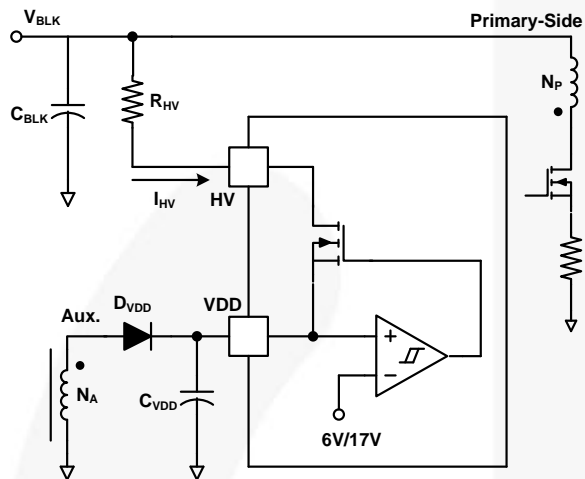
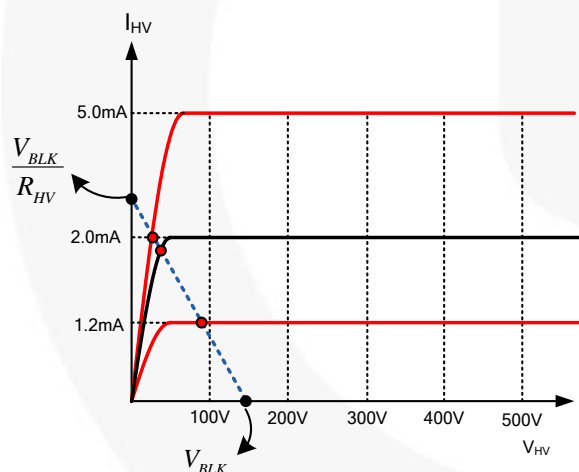

Figure 31. HV Startup Circuit
Figure 32. V-I Characteristic of HV Pin
Figure 31 shows the high-voltage (HV) startup circuit for FAN501 applications. The JFET is used to internally implement the high-voltage current source (see Figure 32 for characteristics). Technically, the HV pin can be directly connected to voltage ( $V_{BLK}$ ) on an input bulk capacitor. To improve reliability and surge immunity, however, it is typical to use a ~100 k $\Omega$  resistor between the HV pin and bulk capacitor voltage. The actual HV current with a given bulk capacitor voltage and startup resistor is determined by the intersection of V-I characteristics line and load line, as shown in Figure 32.